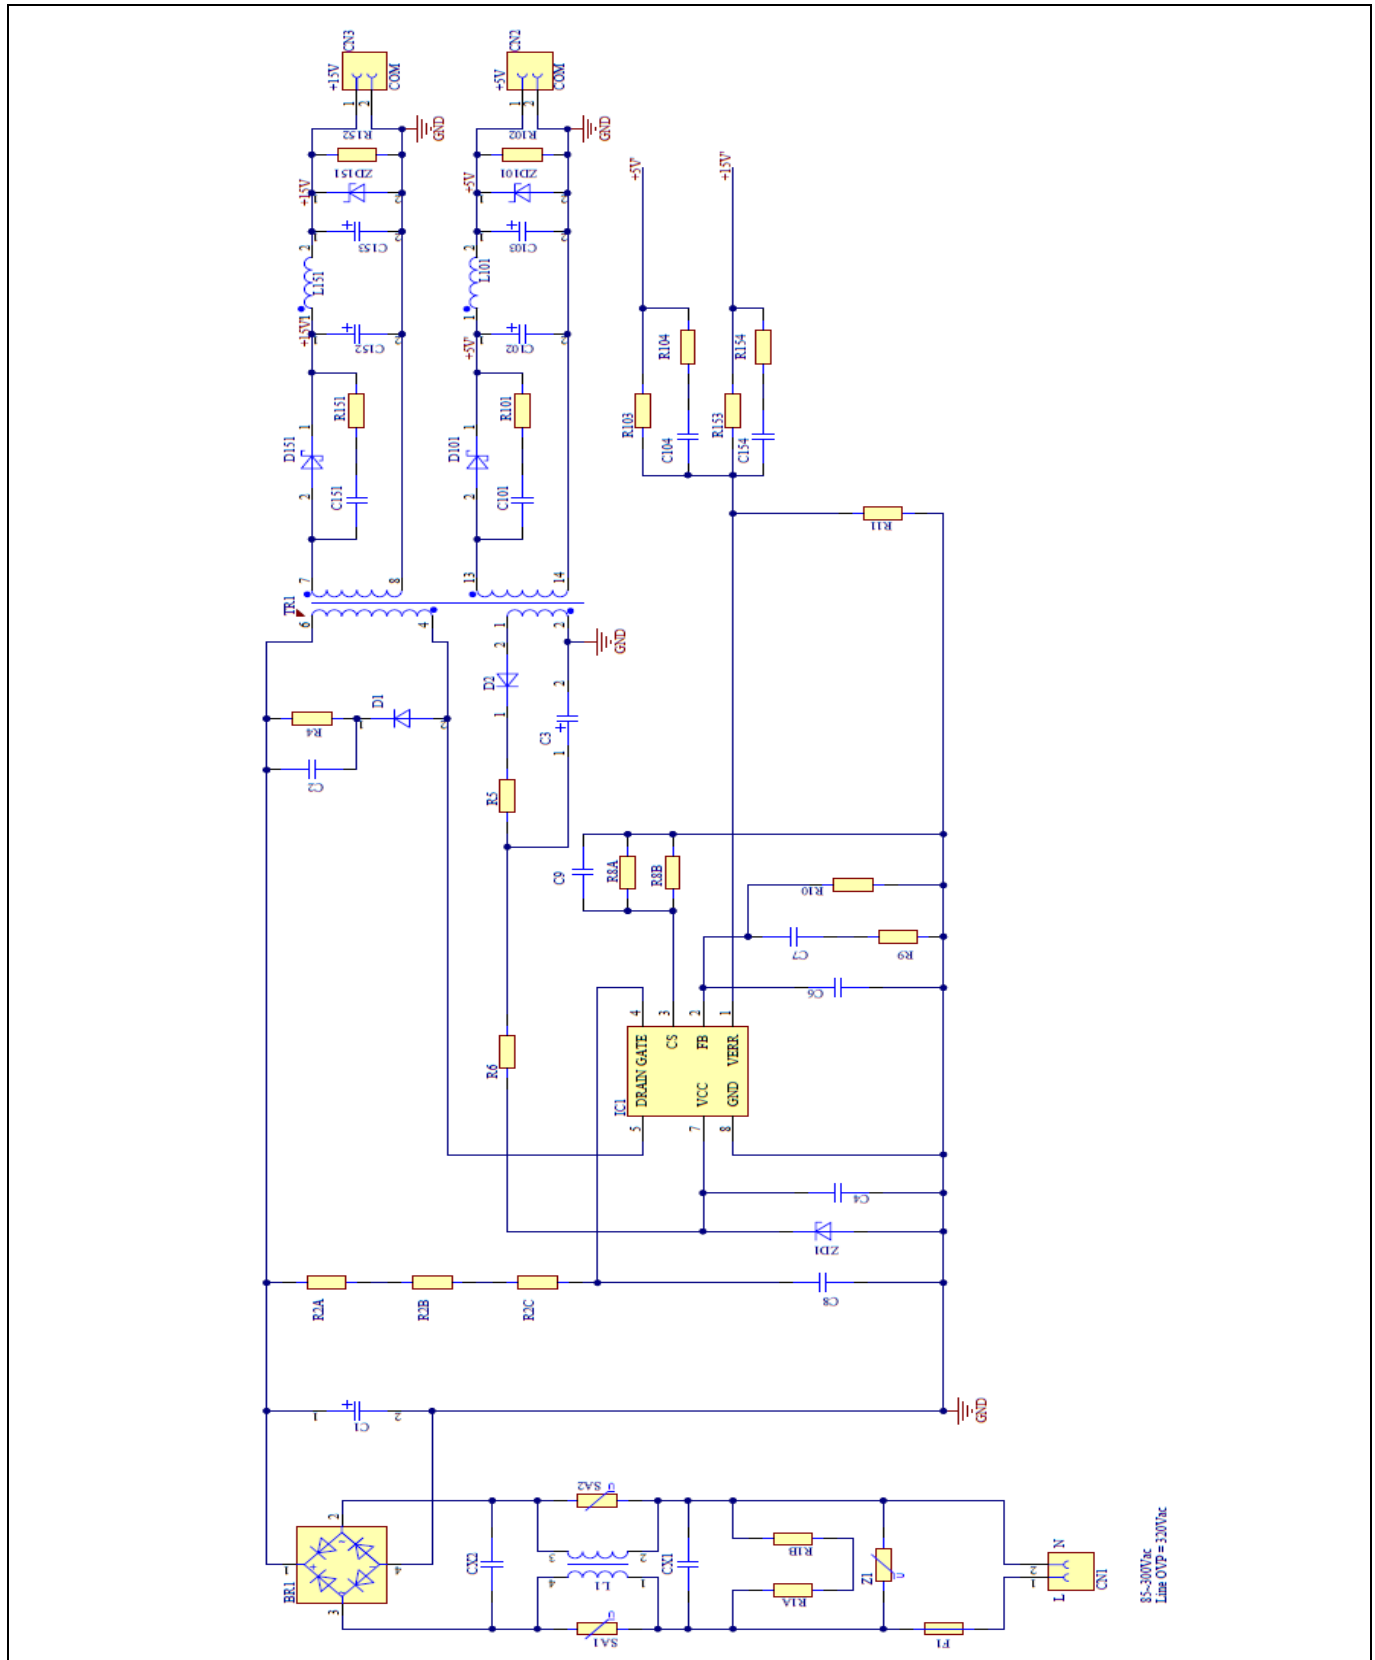

Figure 20 **Schematic of DEMO_5AR4780BZS_14W1**
In an SMPS, the PCB layout is crucial to a successful design. Below are some recommendations (see Figure 20).
- ii. 700/800 V traces (DRAIN pin of CoolSET™ IC1 [see Figure 20]) to nearby traces: greater than 3 mm.